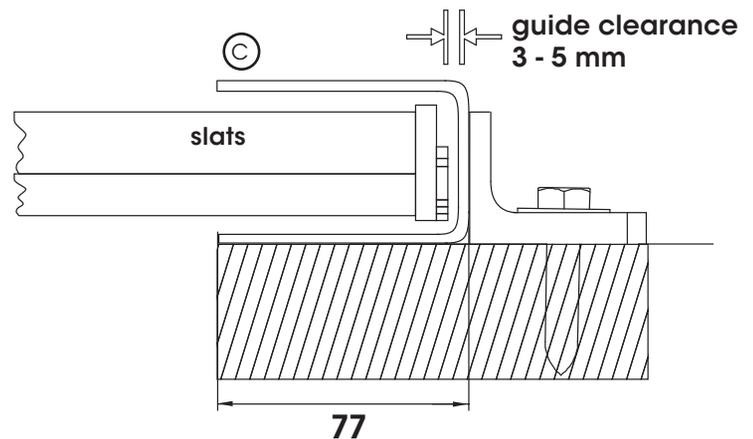
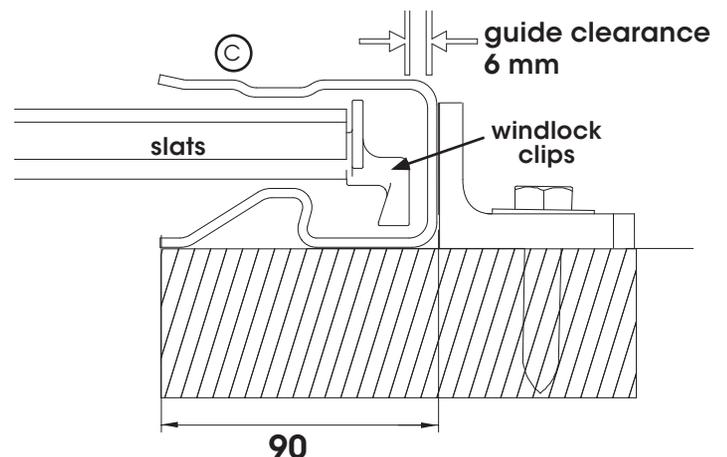

Fig: 2.6.1 (standard guide)
Fig: 2.6.2 (windlock guide)
- Position guides © true and plumb at each side of the opening. Allow 3-5 mm of working clearance between the shutter and the inside of each guide as per **Fig 2.6.1**. For Windlock setup refer to **Fig 2.6.2**.